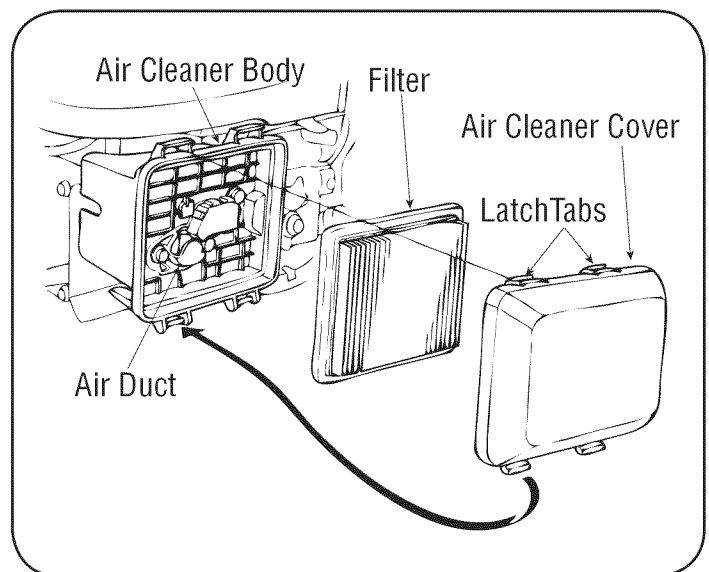

Figure 13
1. Press the latch tabs on the top of the air cleaner cover, and remove the cover. Check the filter to be sure it is clean and in good condition. See Figure 13.